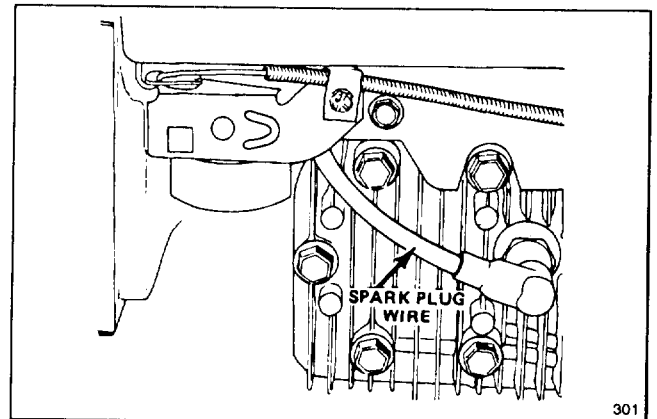

Figure 13
2. Push spark plug wire onto spark plug (Fig. 13).
1. Stop engine and pull wire off spark plug (Fig. 13).
1. Stop engine and wait for engine to cool. Pull wire off spark plug (Fig. 13).